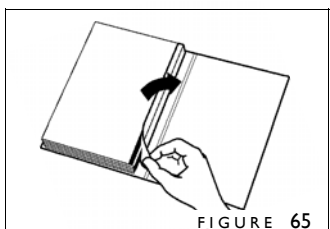

FIGURE 65
6. Release the clamp by bringing the Lever to the upright position. Remove the partially bound book and turn over. On the back side remove the remaining wide release paper (figure 65).